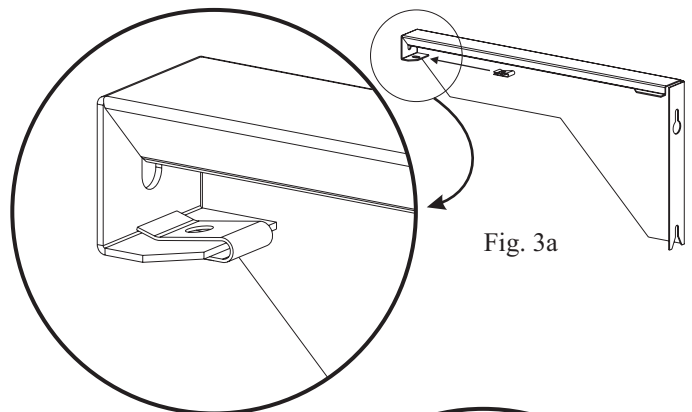

Fig. 3a
- (1) Right Side Shelf Support, (1) Right Side Shelf
Install the one (1) U-Clip fastener to each of the Side Shelf Supports as shown in Fig. 3a. One (1) U-Clip should be placed on each bracket, with the flat side down.